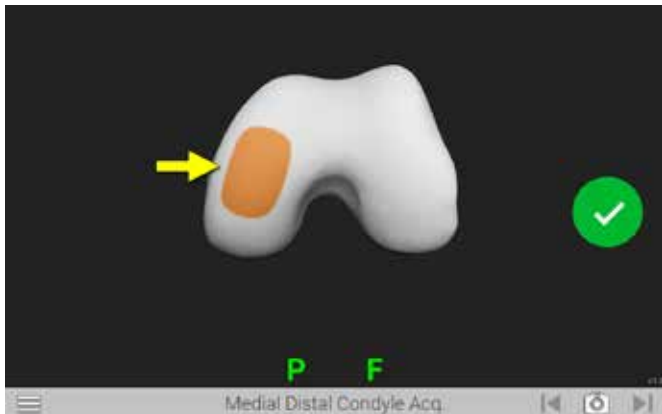

Figure 19
The Medial Distal Condyle Acquisition screen is displayed (*Figure 19*). Position the tip of the ProbeTracker (P) on the medial distal condyle and press the Forward button. Ensure the tip of the probe maintains contact with the condyle and trace a patch that captures the most distal aspect of the condyle as well as the medial-lateral and anterior-posterior curve of the distal condyle.